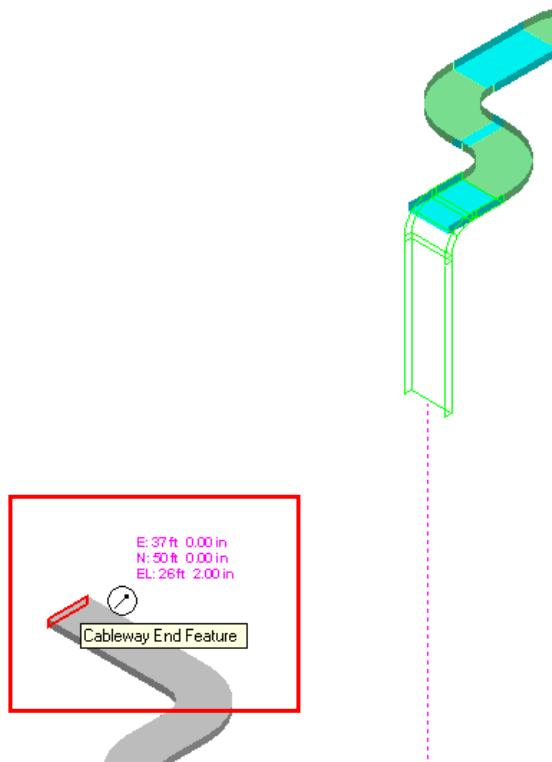

Figure 44: Extending the Cableway
42. Move the cursor to the other end feature of the cableway with non-zero spec to get the elevation coordinate, as show in Figure 44.